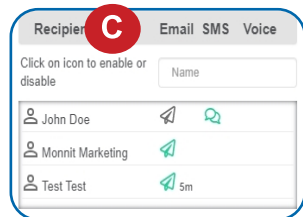

Figure 18
- C.** Recipient list identifies who will receive the notification. See Figure 18.